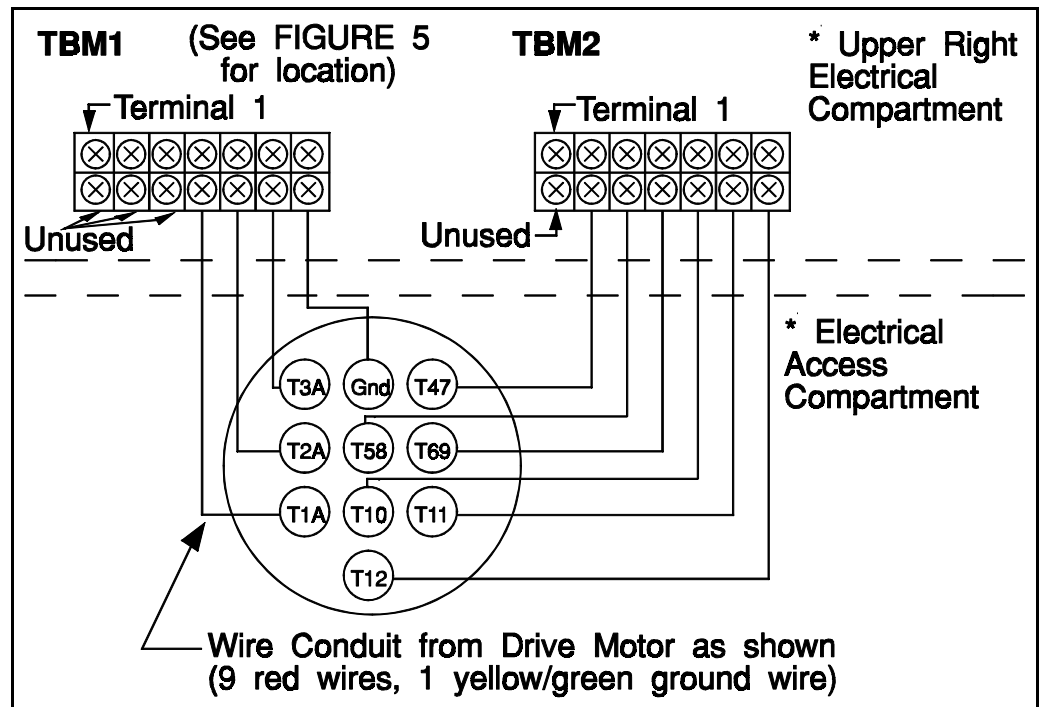

FIGURE 15 (MSIN0108AE)
2. Make connections from the cylinder drive motor conduit (located in the Electrical Access Compartment) to TBM1 and TBM2 (located in the Upper Right Hand Electrical Compartment) as shown in FIGURE 15.